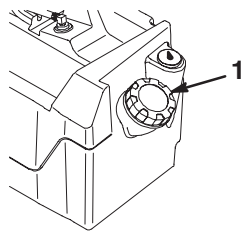

Figure 11
2. Clean the area around the fuel tank cap (Fig. 11).